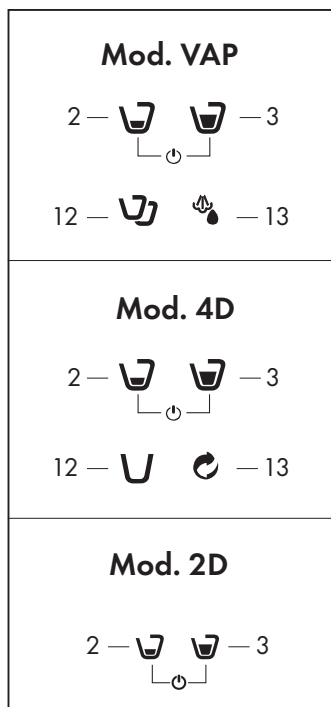

Fig. 5
- Press a symbol (2-3) to switch the machine on. The icons will flash intermittently until the correct temperature is reached; when the symbols (2-3-12-13) come on steady, the machine is ready for use (**Fig. 5**)
To use the machine again, press a symbol (2-3) and wait for the machine to warm up: the delivery symbols (2-3-12-13) will flash intermittently until the correct temperature is reached; when the symbols (2-3-12-13) come on steady, the machine is ready for use. (**Fig. 5**)
The machine can be switched off by pressing and holding down at the same time symbols (2-3) (**Fig.5**)
- Check that there are no capsules inside the machine and that there is water in the tank (8); switch on the machine by pressing the symbol (2-3) (**Fig. 5**)